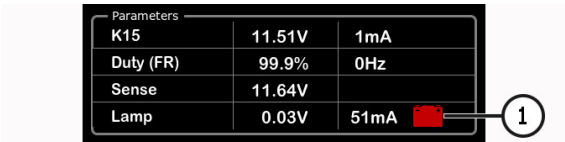

Figure 24. Parameters of Lamp-type regulators
4. Press the **“K15”** button. The voltage should drop to the battery level; the regulator should turn off and stop responding to changes in speed or the specified voltage level. A battery indicator should appear in the **“Lamp”** parameter field (see position 1 in Fig. 24).